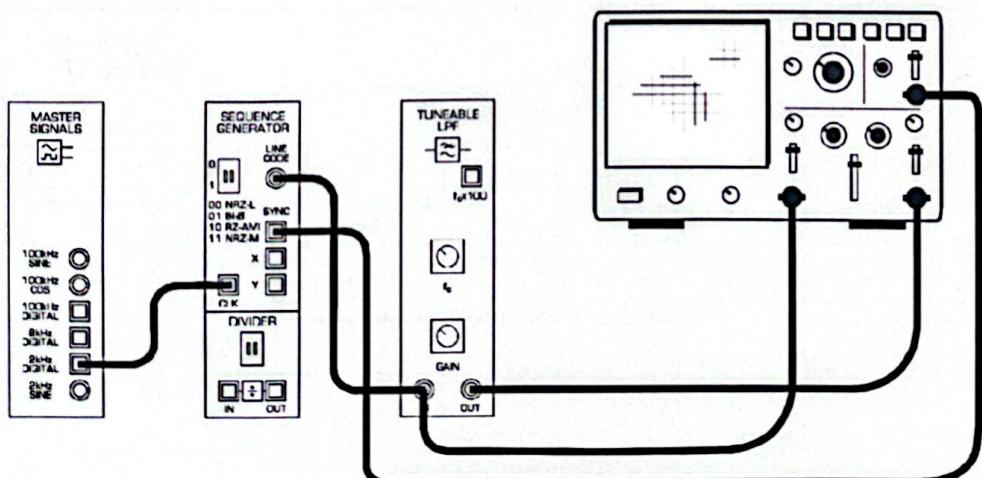
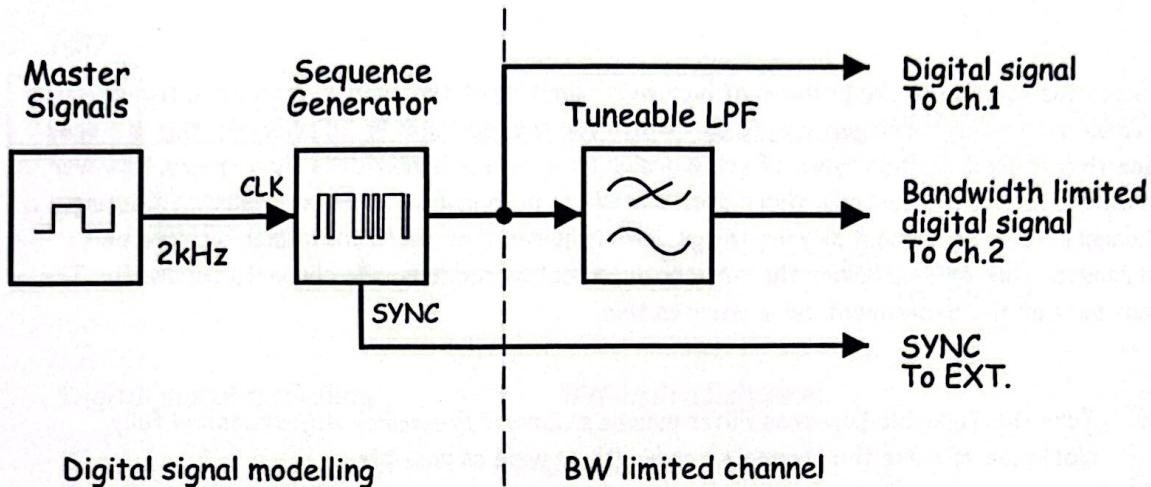

Figure 7
Figure 8
22. Connect the set-up shown in Figure 7 below.
The set-up in Figure 7 can be represented by the block diagram in Figure 8 below. The Sequence Generator module is used to model a digital signal and its SYNC output is used to trigger the scope to provide a stable display.